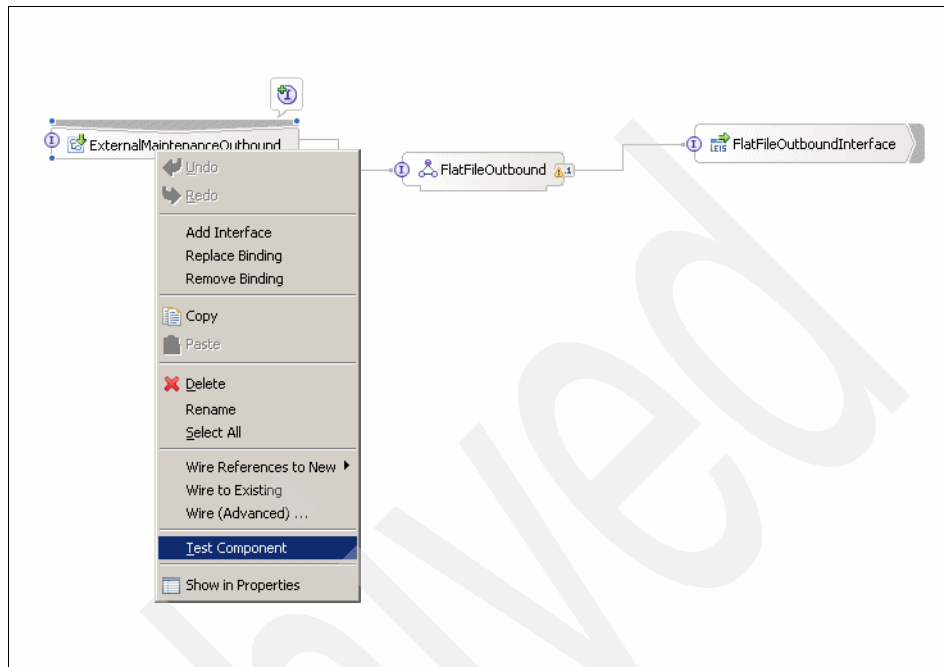

Figure 2-45 Test component
4. Click **Test Component** (Figure 2-45).